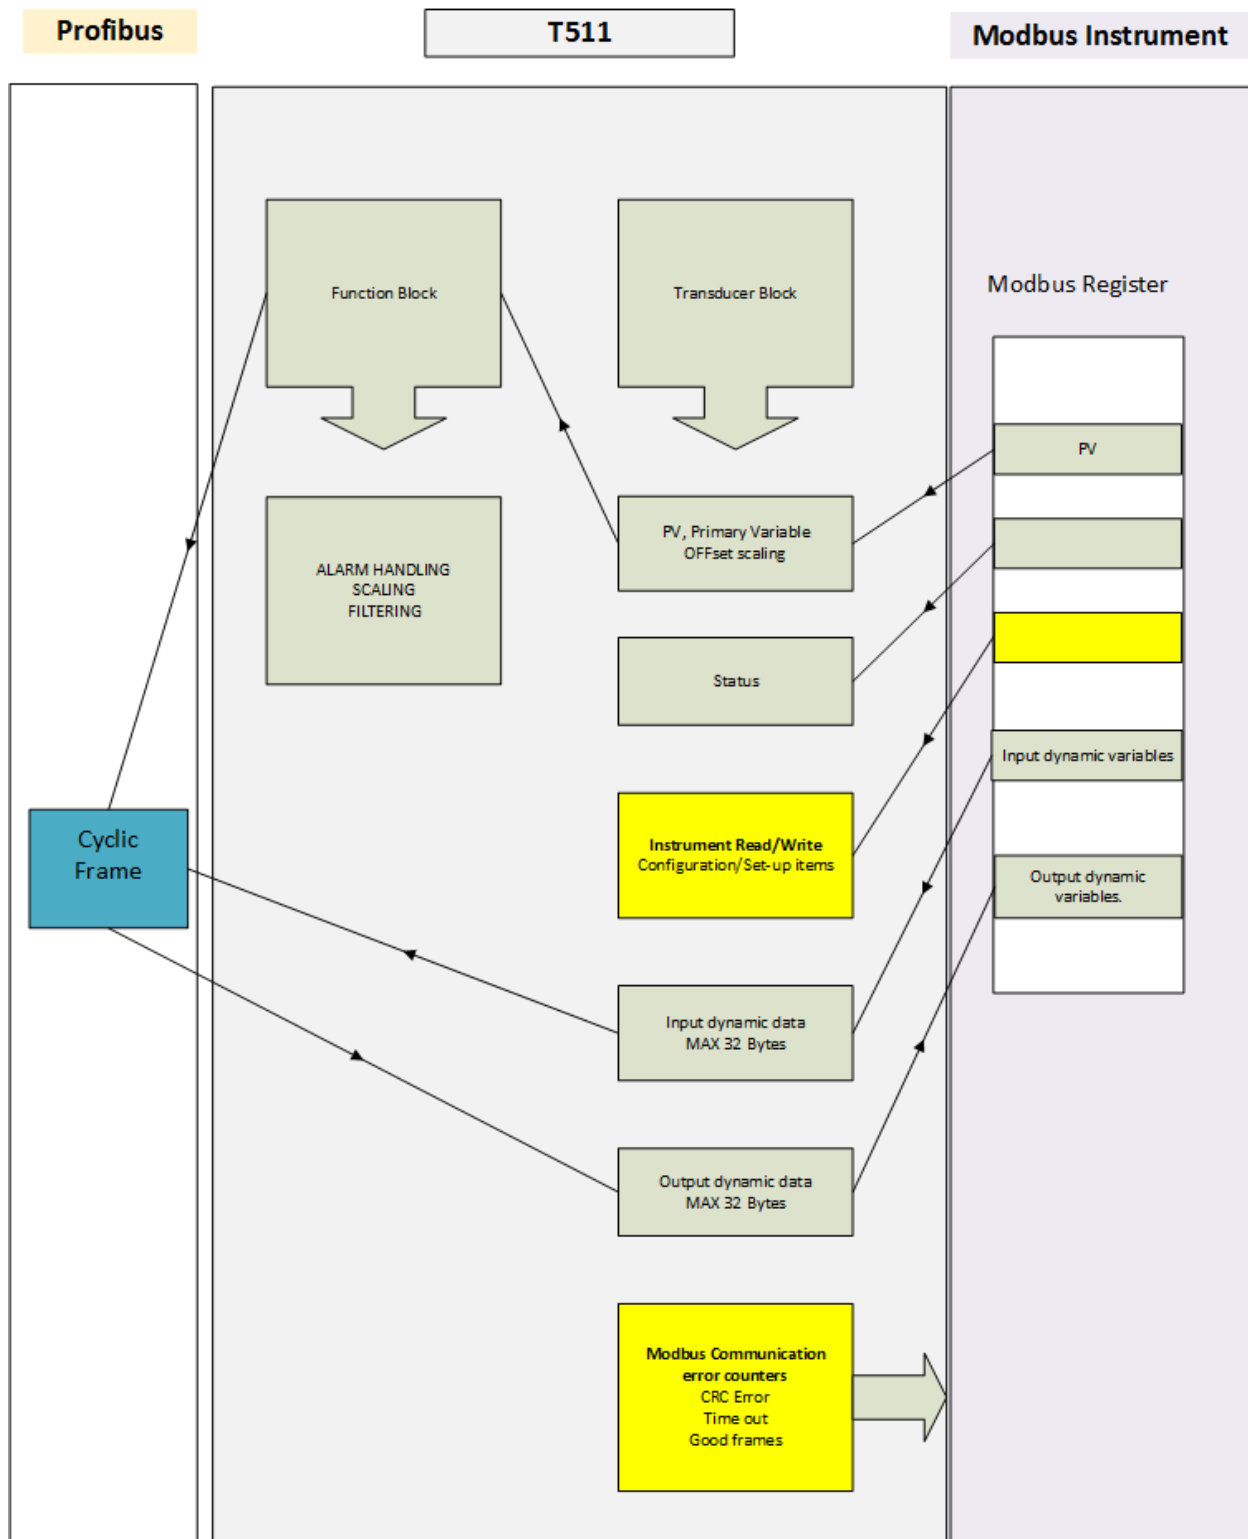

Figure 16 Channel communication services
Each Channel supports five types of traffic, transfer of measurement(s) (PV), transfer of status/diagnostic information, transferring a block of input Modbus registers to the cyclic data exchange, transferring output data to a block of Modbus registers and Modbus instrument read/write services. The principle diagram for the communication is shown in Figure 16.